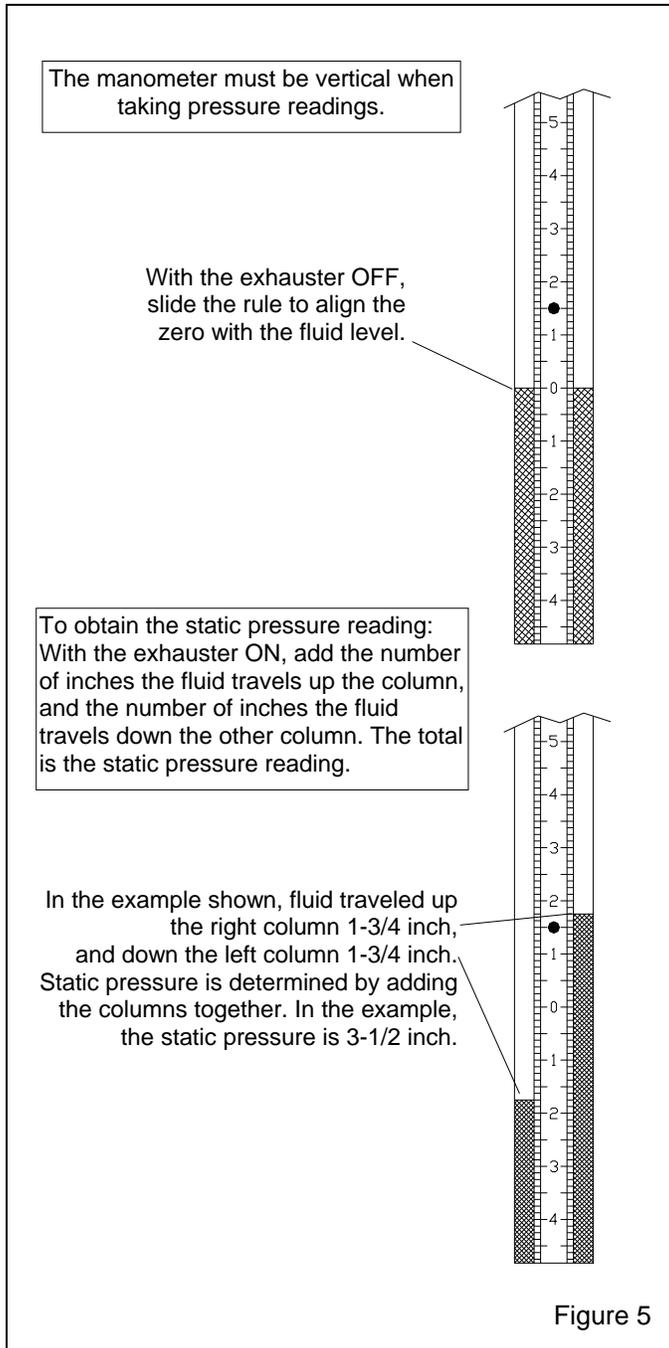

Figure 5
**4.1.7** Adjust the slide rule to align the zero with the fluid level. Refer to Figure 5.
4.1.10 Obtain the static pressure by adding the number of inches the fluid travels up one column to the inches the fluid travels down the other column. Refer to the example in Figure 5.